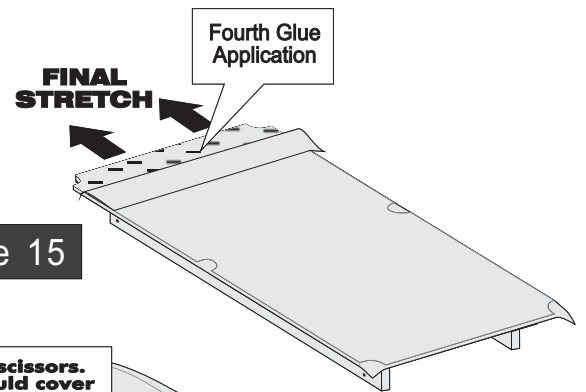

Figure 15
37. Fold cloth away from other end to expose slate/slatron for your fourth glue application. (See Figure 15) Apply cement to this end in the same manner. Allow cement to become tacky, wait at least one minute.